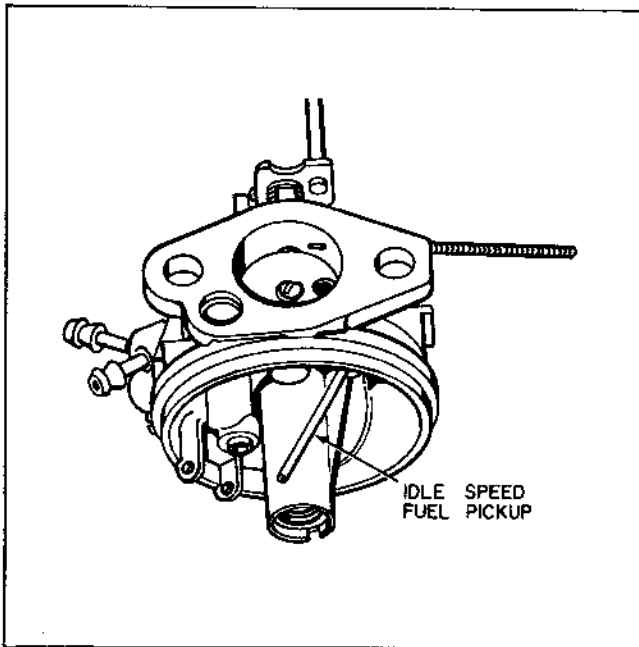

Figure 3-18. Float Carburetor with Separate Idle Fuel Pickup
- (1) This float carburetor is one of several types used on an outboard engine application.
- (2) The type shown in Figure 3-18 is characterized by a separate idle pickup tube which is a passage for fuel in the idle engine speed position.